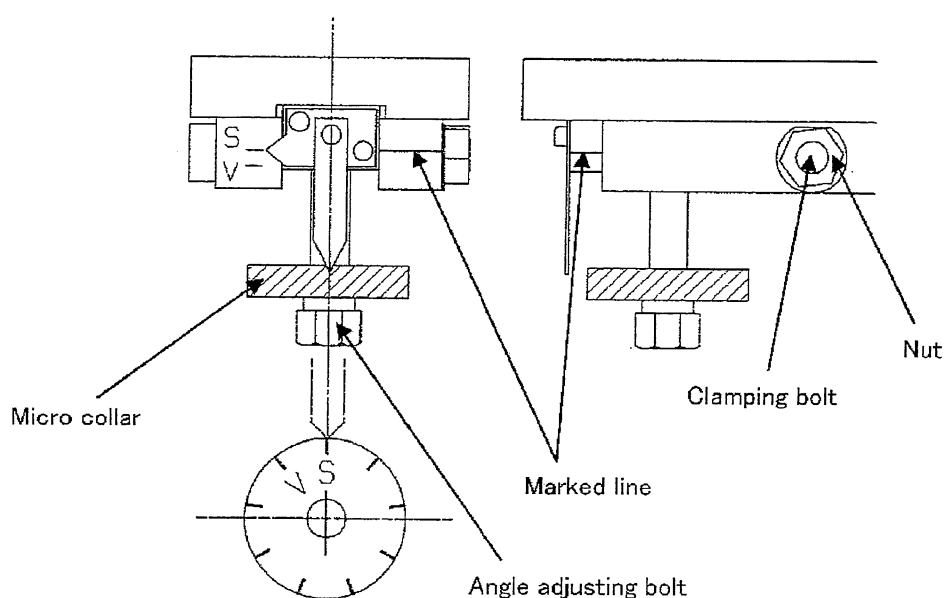

Fig. 9
Reference angle (Same as the valve angle) is a position where the marked line of the preserve plate(28) meet with the marked line of the slide shroud(35). (As shown in Fig.9)